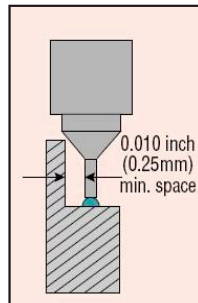

Figure 7-7 Sidewall interference with dispensing needle
**Avoid Z-axis obstructions.** Sidewall proximity to the dispensing needle. Often, a form-in-place EMI gasket is applied along a "ledge" adjacent to a higher sidewall. The dimensional tolerances on ledge and sidewall locations are particularly critical, to avoid sidewall interference with the moving needle a minimum of 0.010 in clearance is required (Figure 7-7).